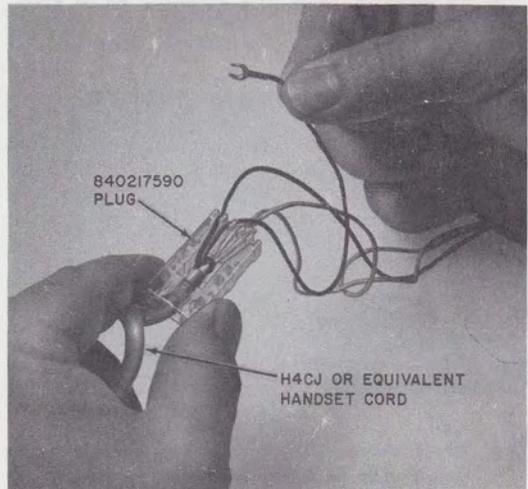

Fig. 14—Installing Spade-Tipped Handset Cords in Early Production 851- and 2851-Type Telephone Sets with G12A Handset
3.21 Installation of Spade-Tipped Handset Cords in Early Production Sets Equipped With G12A Handset (Fig. 14):